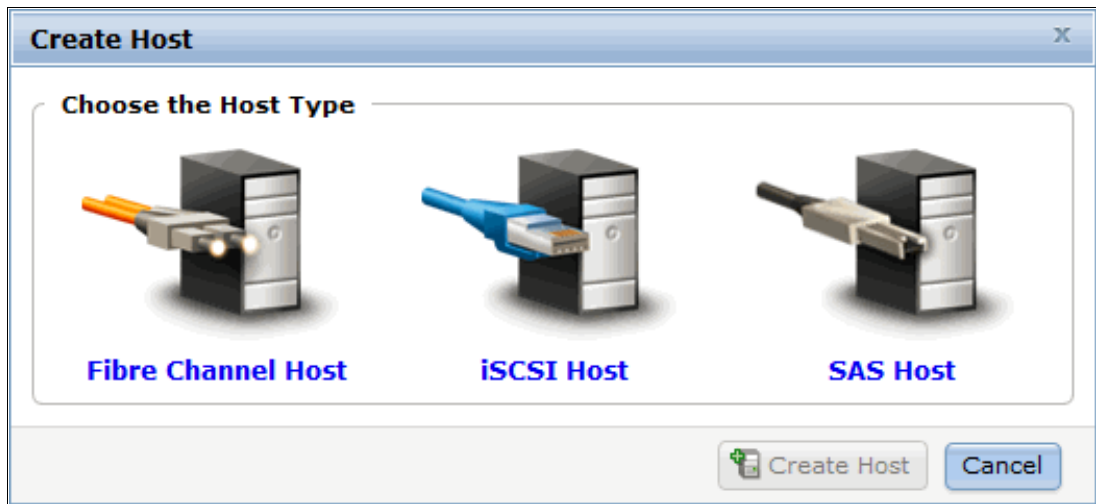

Figure 3-77 Choose the Host Type panel
Click **New Host** and the Create Host panel opens. Choose the host type from Fibre Channel (FC), iSCSI, or SAS host and the applicable host configuration panel is shown. After the host type is determined, the host name and port definitions can be configured. Figure 3-77 on page 127 shows the Choose the Host Type panel of the Create Host window.